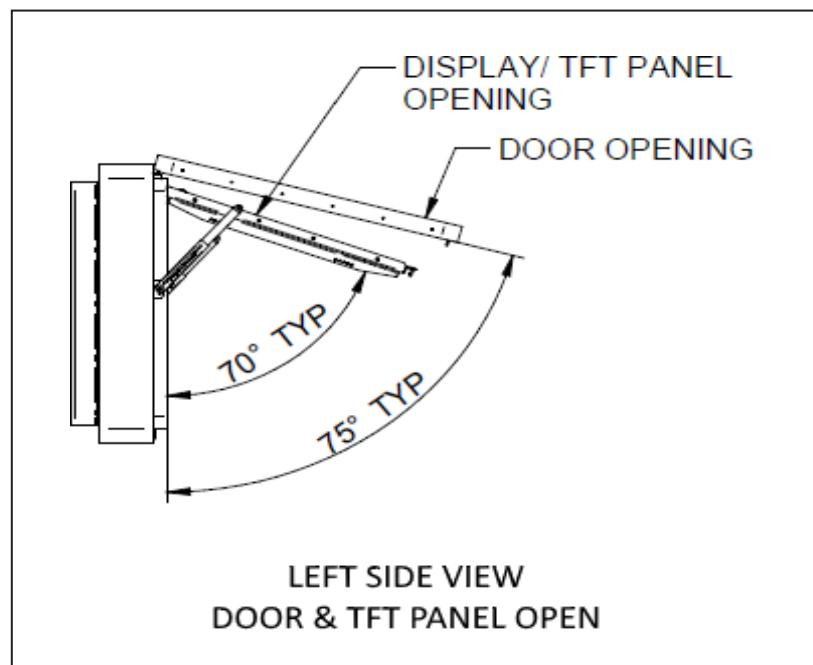

Figure 4: Accessing Internal Components
4. Release the TFT screen by turning the fasteners that lock the screen. Carefully raise the TFT screen. Mechanical stays installed at each end support the door when in the open position. Refer to **Figure 4**.